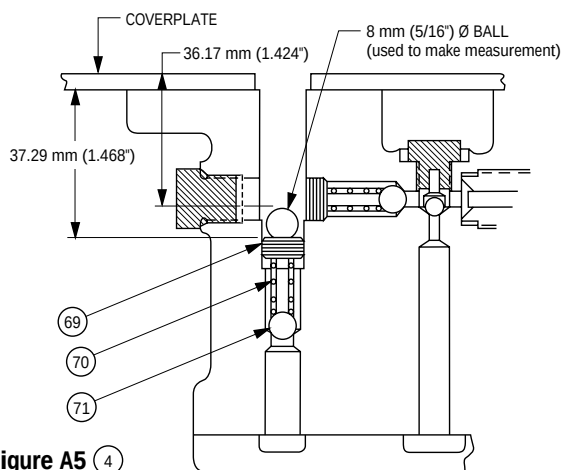

Figure A5 (4)
When properly set to the dimension shown in Figure A5, the high pressure stage operation of the pump will be delayed approximately one (1) second after the motor starts. This delay is created by the closing time of the pilot-operated valve.